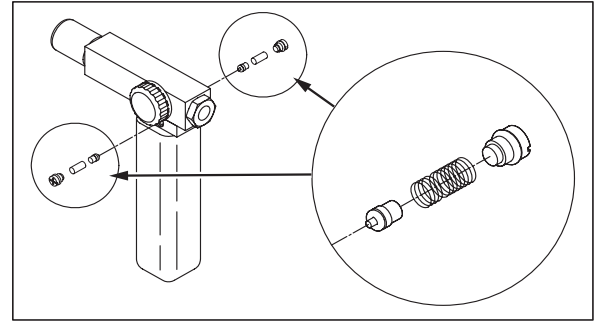

Figure 2. Disassembly
2. Gently remove the spring and o-ring assembly. This includes several small components. Remove with care. See Figure 2.